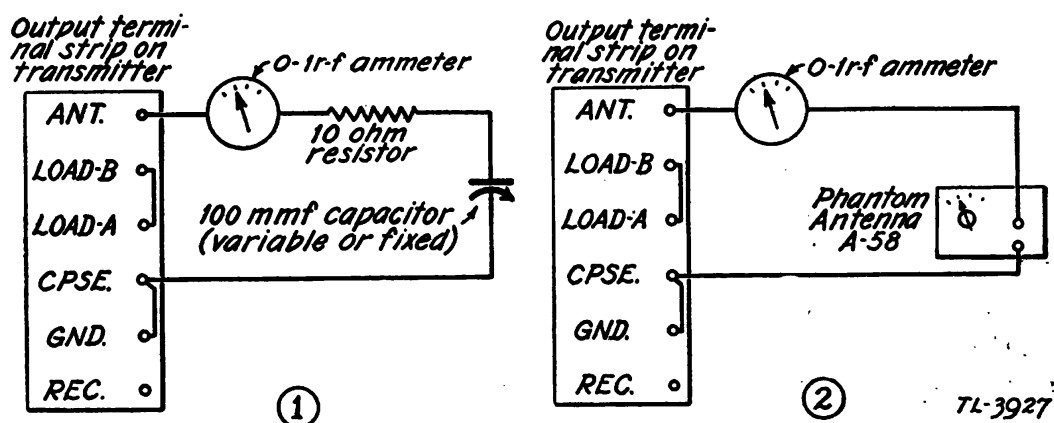

FIGURE 25.—Method of connecting phantom antennas to output of radio transmitter BC-191-(*).
NOTE.—The capacitor, resistor, and radio frequency ammeter are connected in series, and the combination connected to the ANT. and CPSE. binding posts of the transmitter's output terminal strip to form a dummy antenna load for the transmitter. Terminals LOAD A and LOAD B are connected with a wire jumper. Terminals GND. and CPSE. are similarly connected. Phantom antenna A-58 issued to some organizations, may be substituted for items (3) and (4). In this event, the radio frequency ammeter is placed in series with A-58 (see fig. 25).
- (1) Connect dummy antenna (see note *a* above), in series with radio frequency ammeter, to transmitter (see fig. 25) and connect a shorting wire across the two ammeter terminals.
- (2) Tune up transmitter for continuous wave operation as indicated in paragraph 17, tuning to a frequency near the middle of the frequency band covered by the transmitter tuning unit which is to